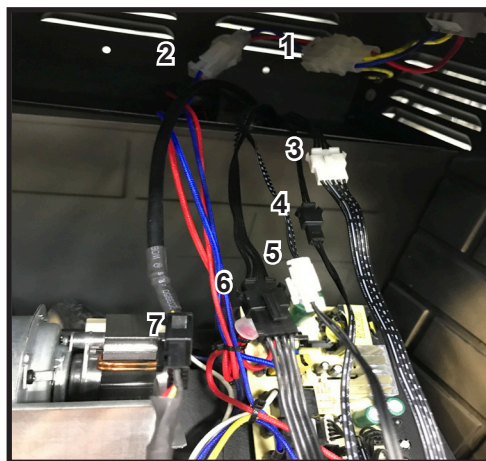

Figure 11 Seven Electrical Connections required for Heater/Blower Module Removal and Installation
7. Locate the seven (7) electrical connectors on the right side of the appliance cavity. Disconnect each of the seven connectors. See Figure 11.
8. Reconnect the seven (7) connectors from the replacement Blower/Heater module to the appliance. See Figure 11.